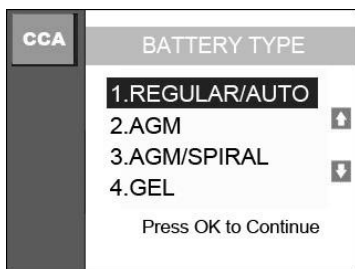

Figure 9.2
5. Press **OK** button to start test. The tool will display a list of battery types for selection. (Figure 9.2) Select the right type of battery and press **OK** button to continue.